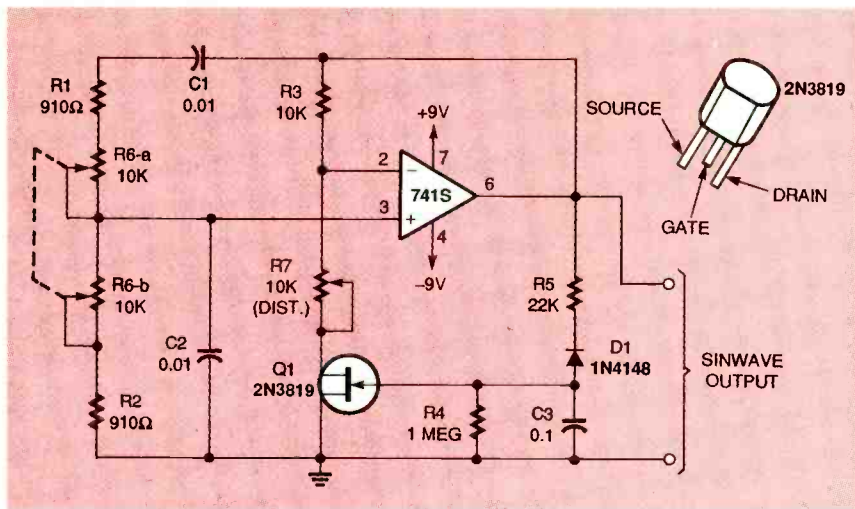
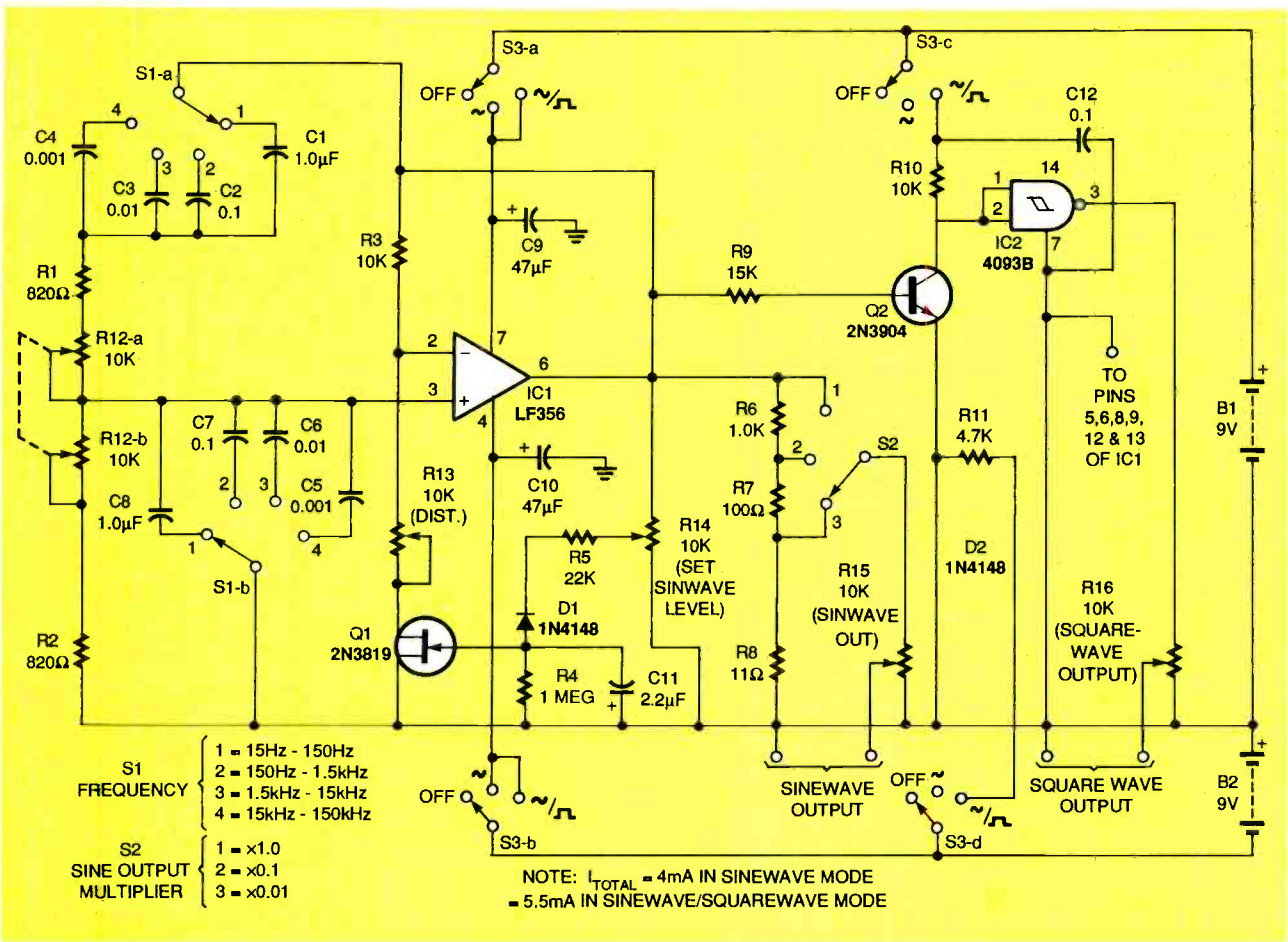

FIG. 10—A JFET-REGULATED 1.5- to 15-kHz Wien-bridge oscillator.
FIG. 12—THIS SINE/SQUAREWAVE generator covers the 15-Hz to 150-kHz band.
Figure 10 is the schematic for an alternative circuit that consumes only a few milliamperes. In this circuit, JFET Q1 serves as a variable resistance that is voltage-controlled by the oscillator's negative peak amplitude. This is detected by the series network of resistor R5, diode D1, and capacitor C3 in parallel with resistor R4.
To organize the Fig. 10 circuit, connect its output to an oscilloscope and adjust trimmer R7 to the lowest setting that will give stable oscillation without visible distortion of the waveform over the 1.5 kHz to 15 kHz band. If the Wien bridge components are well matched, THD could be less than 0.1%. The output signal amplitude depends on the pinchoff characteristics of the 2N3819 JFET, a value that is typically between 2.5 and 7 volts, peak-to-peak.
Figure 12 is the schematic for JFET-regulated version of the circuit in Fig. 10, modified to form an economical sine/squarewave generator. It covers the 15 Hz to 150 kHz frequency range with four settings of switch S1. Sinewave potentiometer R14 permits the sinewave's peak-to-peak output level to be preset to 8 volts. The squarewave generator section consists of common-emitter amplifier Q2 and Schmitt trigger IC2. The base of transistor Q2 is driven by the sinewave output of IC1 through R9, and Q2's emitter is biased to about -600 millivolts through diode D2 and resistor R11.
**Constant current configuration.** Most modular DC-to-DC converters are configured to provide a constant output voltage. The configuration shown in Fig. 10 provides a constant-current output. This is useful in applications where the load